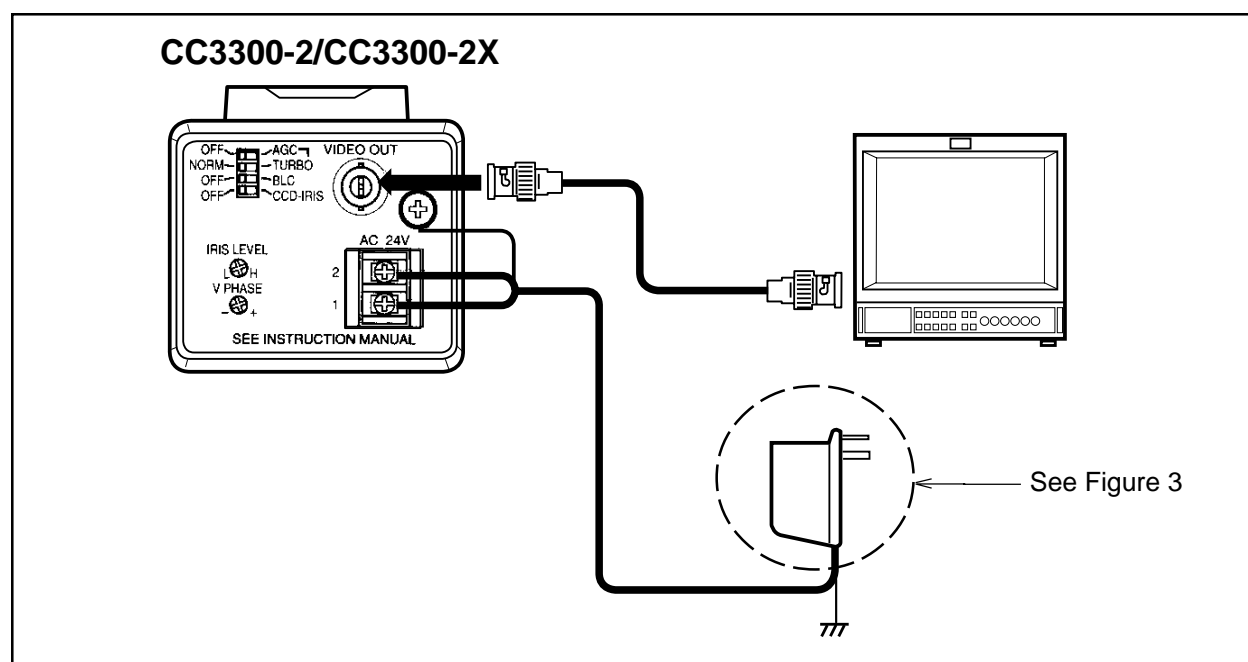

Figure 2. Rear Panel: CC3300-2/CC3300-2X
- The CC3300-2 must always be operated with a 24 VAC, Class 2 (60 Hz) power supply, while the CC3300-2X must use a 24 VAC (50 Hz) power supply. Neither power supply is provided. A wall transformer (as depicted in Figure 2) is an example of a common power source.